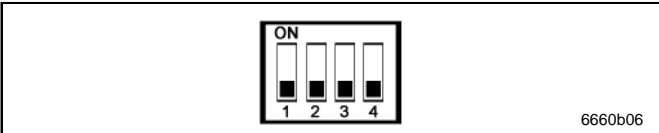

Fig. 11 DIP switch: PMA lubrication systems – operating mode
- After that, switch SW4 back to OFF (Fig. 11).